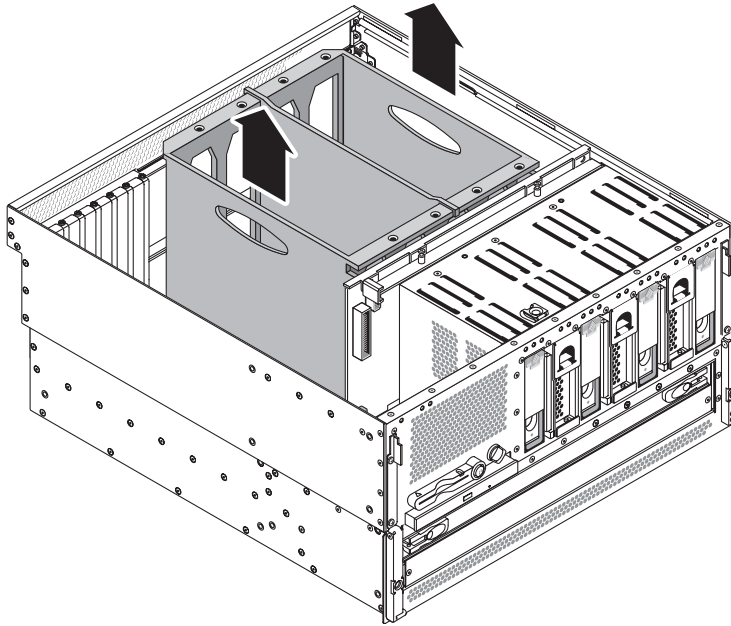

FIGURE 4-40 Removing the Motherboard From the System
19. Pull the motherboard up and out to remove it from the system (FIGURE 4-40).
1. Align the motherboard with the chassis so the CPU cage sits directly behind the hard drives and fan trays (FIGURE 4-40).